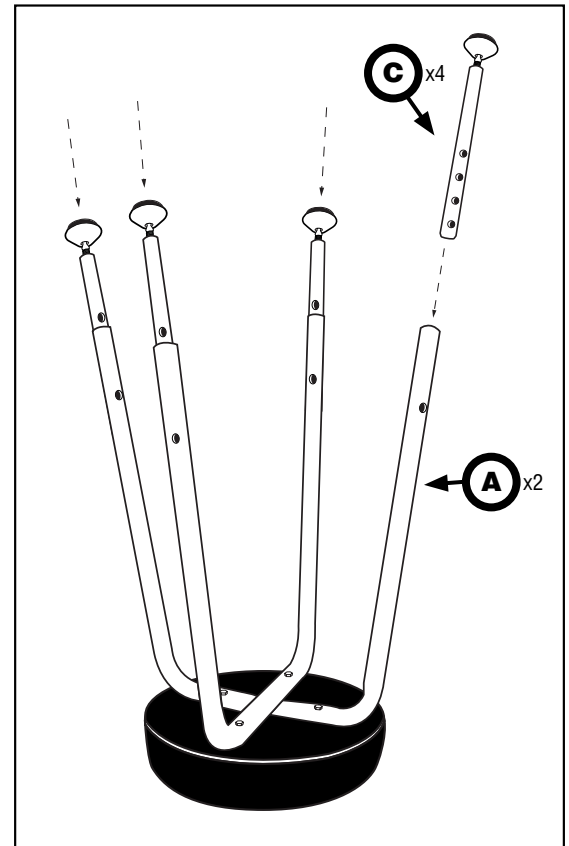

Figure 3
- 4** Slide a telescopic leg tube into the end of each U-shaped leg frame. Don't secure with leg bolts yet. However, now is the time to consider the desired seat height in preparation for the next step. Height can be set between 24" and 30" in 2" increments, depending on which adjustment hole in the telescopic leg tubes you use. Note: once the stool has been set at a certain height, it will need to be partially disassembled in order to change the height in the future. See **Figure 3**.